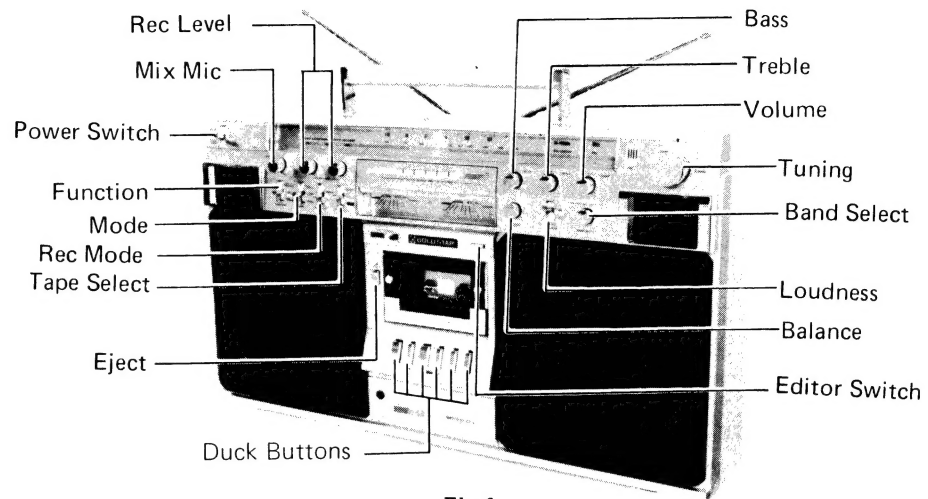

Fig.1
- (1) Please pull out the round volume knobs such as tuning, Bass, treble etc.(see Fig.1) and open the cassette door with pressing the eject button.(see Fig.2)